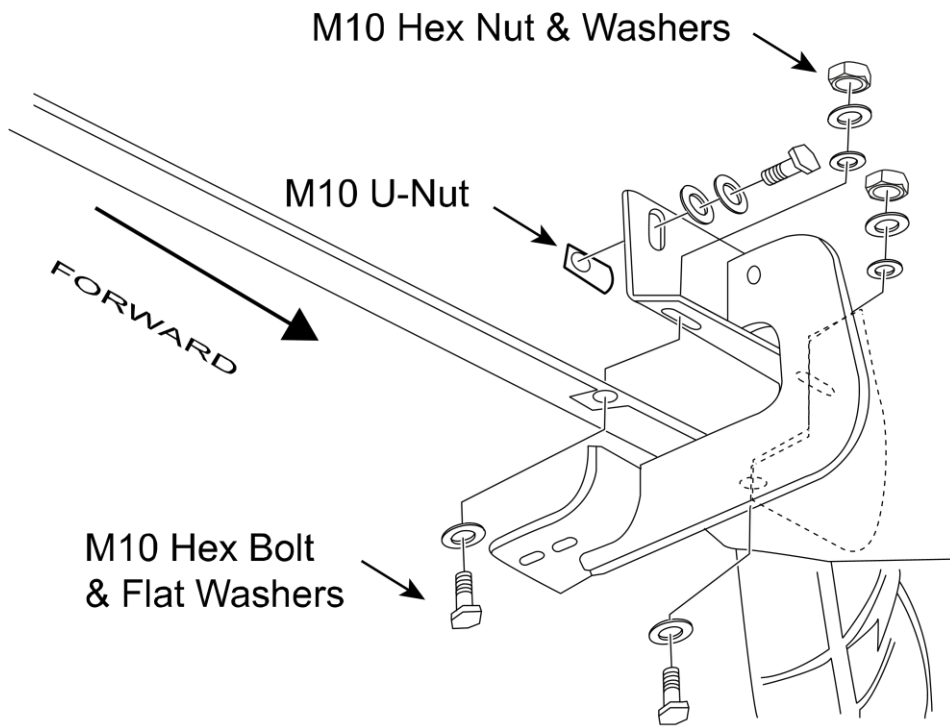
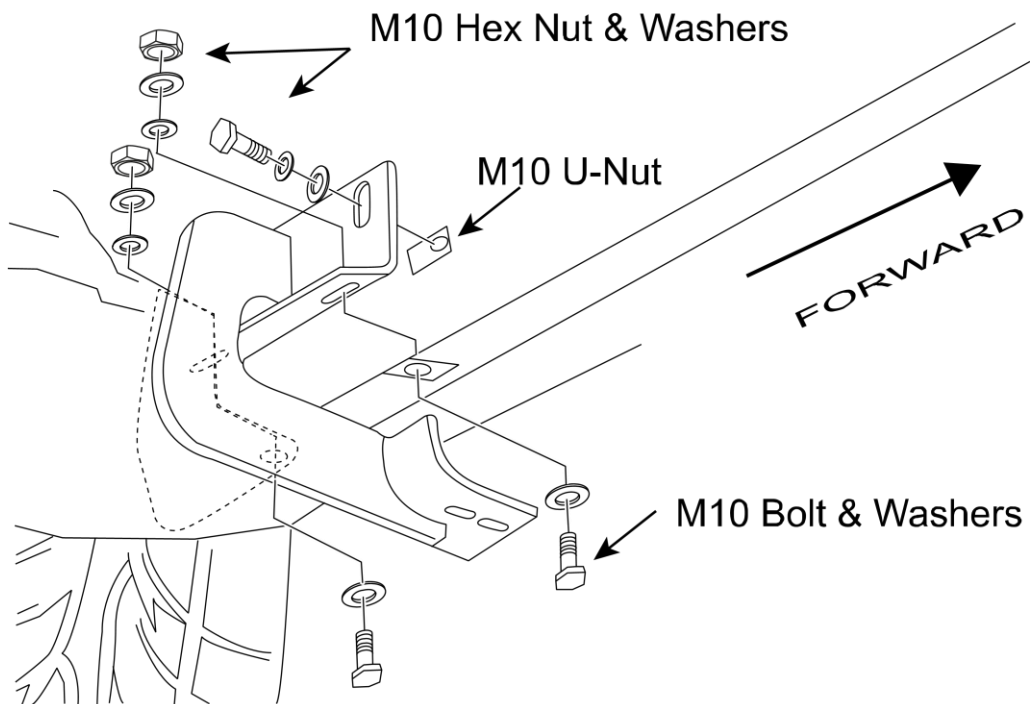

Figure 1. Driver Side - Front Bracket
Figure 2. Driver Side - Rear Bracket
2. Install extruded U-Nuts as shown for both front and rear brackets for the top hole positions of only (see Fig. 1 and Fig. 2).
3. Install driver side front and rear bracket as shown (see Fig. 1 and Fig. 2). Hand tightens.